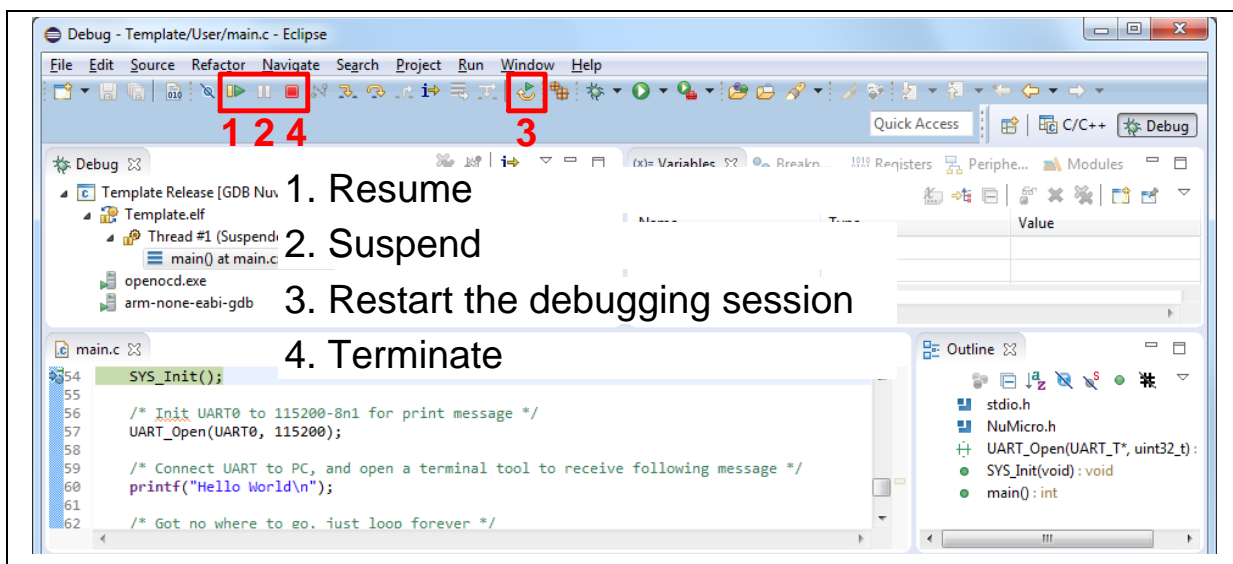
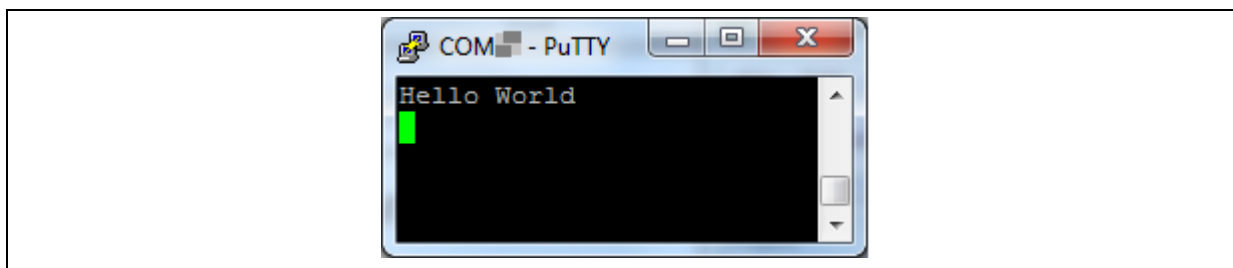

Figure 3-36 NuEclipse Debug Mode
Figure 3-37 Debug Message on Serial Port Terminal Windows
6. Figure 3-36 shows the debug mode under NuEclipse. Click “Resume” and the debug message will be printed out as shown in Figure 3-37. User can debug the project under debug mode by checking source code, assembly language, peripherals’ registers, and setting breakpoint, step run, value monitor, etc. For more information about how to use NuEclipse, please refer to the NuEclipse User Manual.